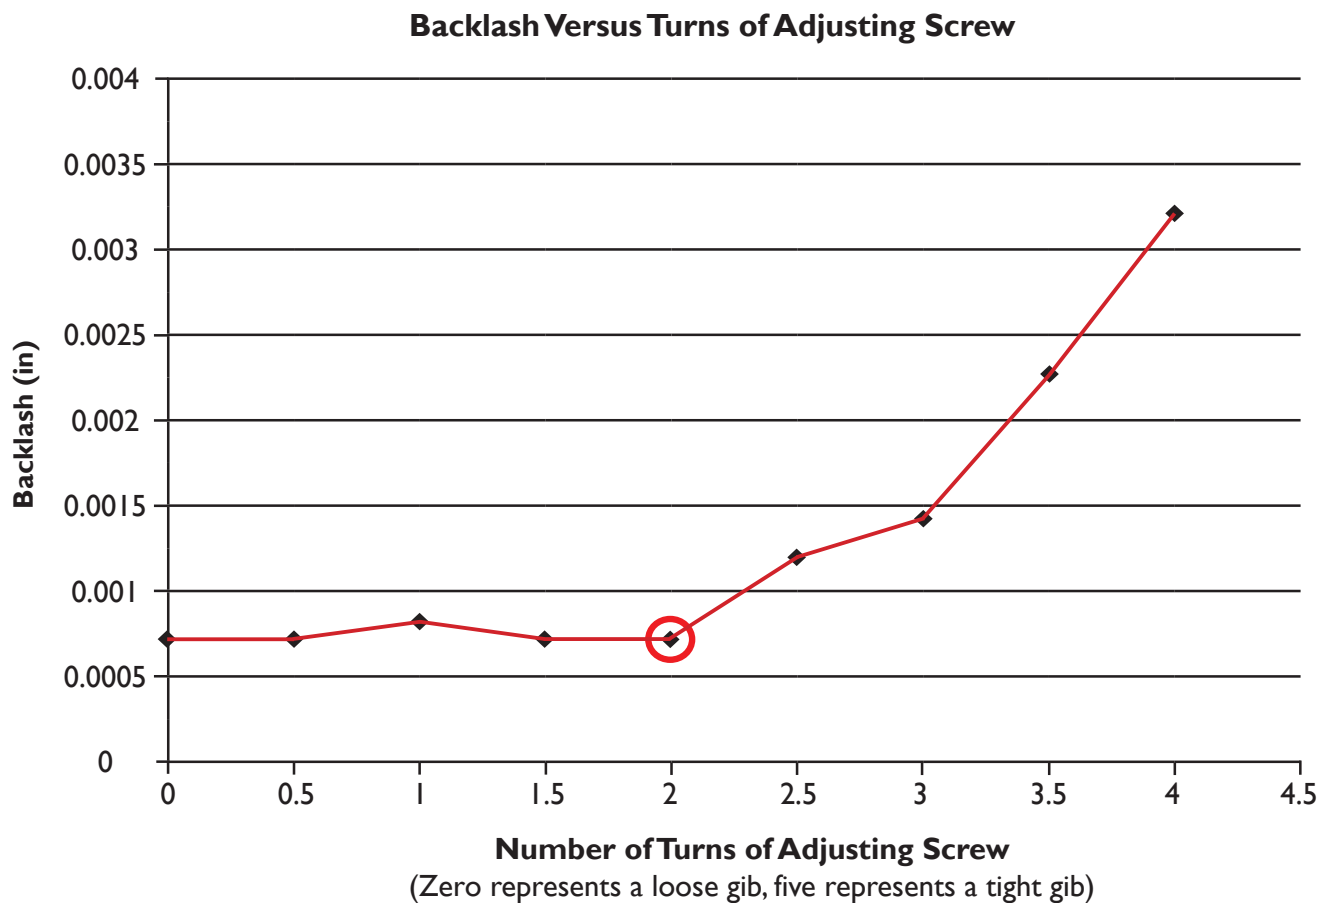

Figure 7.2
5. Back the adjustment off to the point just before you saw the increased backlash. That is the ideal setting for the axis (see **Figure 7.2**).